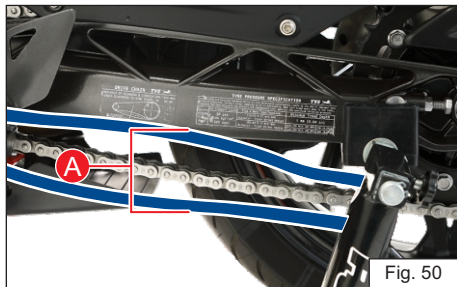

Fig. 50
- ◆ Using the fingers, check the slackness of the chain at the lower portion, midway (A) between the sprockets (ref. Fig. 50).
- ◆ The slackness (A) should be between 30 to 40 mm at the various points of the chain.